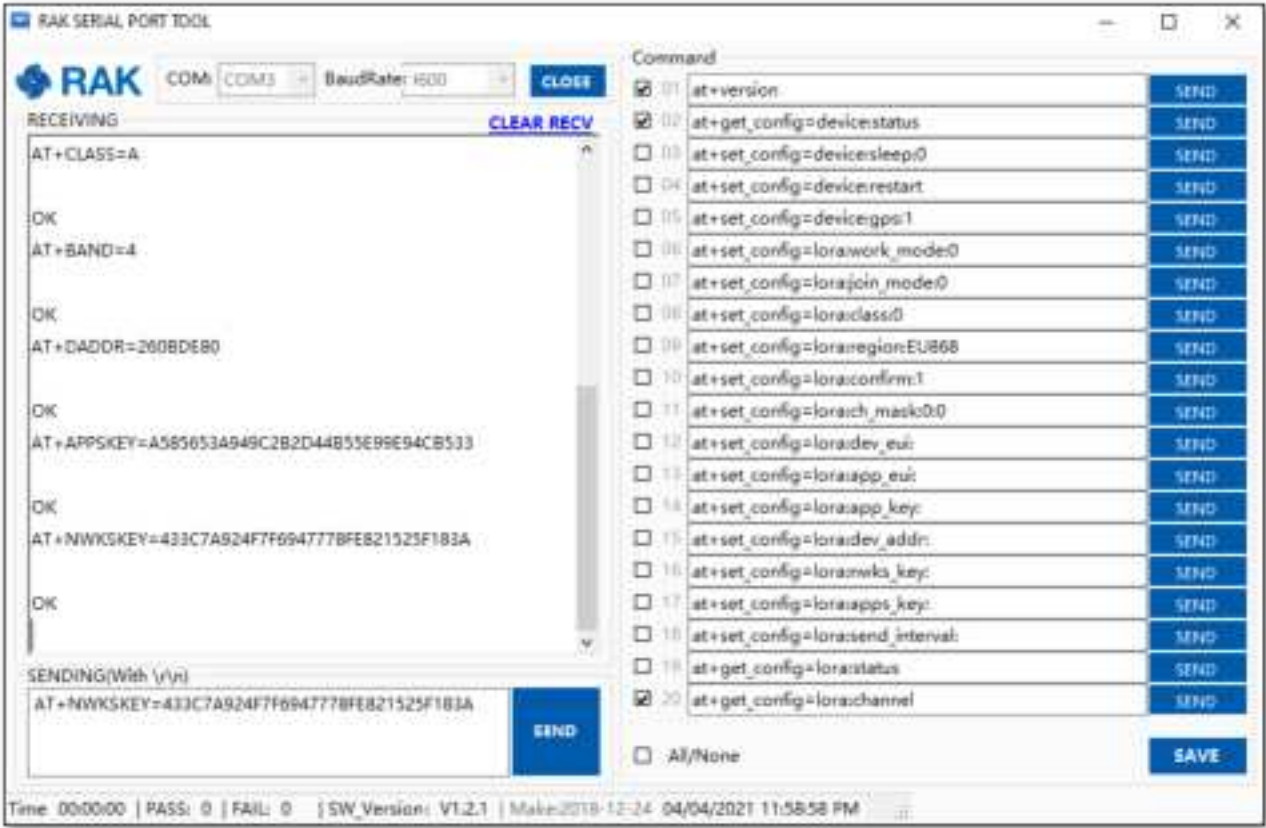
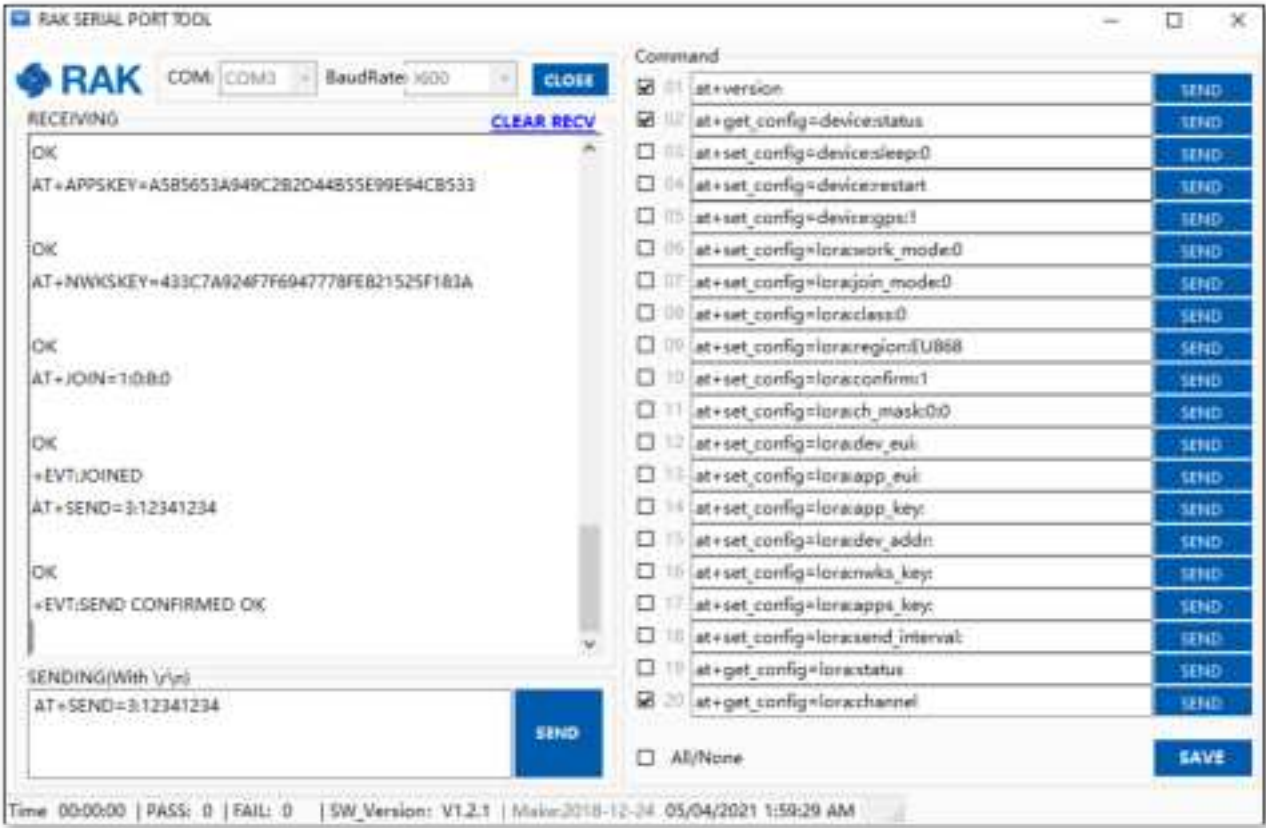

Figure 65: Configuring LoRa Parameters
Figure 66: ABP Test Sample Data Sent via RAK Serial Port Tool
3. By default, you should create a new application, although you can reuse existing ones. For this setup, create a new Application by clicking on the “**CREATE**” button and filling in the required parameters, as shown in **Figure 65** and **Figure 66**.